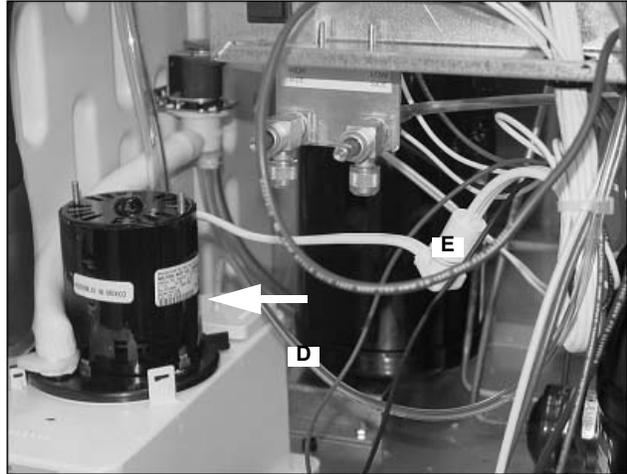

Figure 56.
60. Connect the pressure transducer tube (D) to the water pan.
Connect the water pump motor harness (E) (Figure 56).